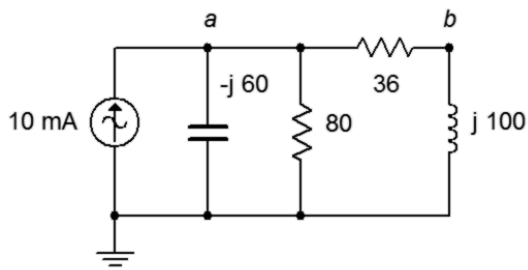

Figure 4.15
23. For the circuit of Figure 4.15, determine voltages v_a and v_b .
24. For the circuit of Figure 4.15, determine the currents through the two resistors.